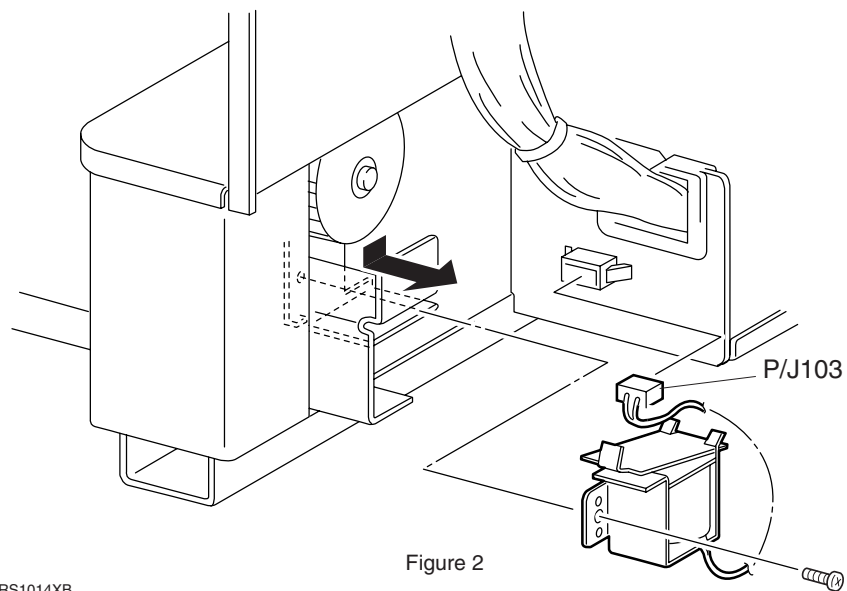

Figure 2
4. Remove the Sector Gear Spring from the Sector Gear (Figure 2).
5. Remove the screw securing the Feed Solenoid to the printer frame (Figure 2).